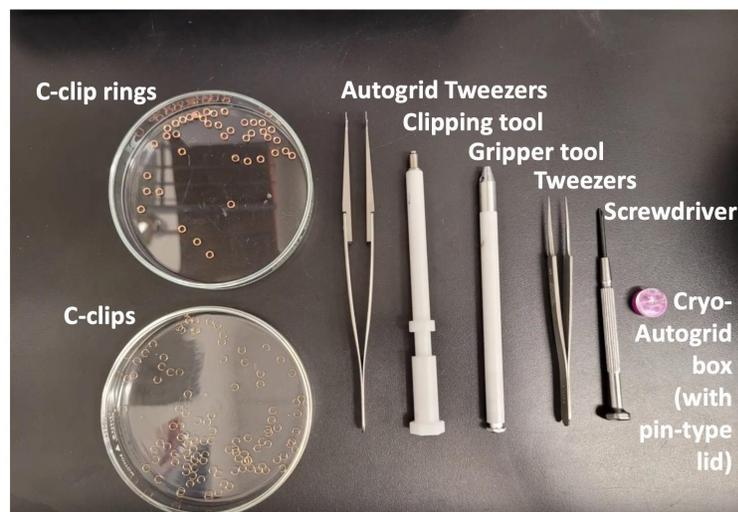

Figure 1. Tools needed for grid clipping.
- 2.4. Definition of terms for tools/equipment can be found in Figures 1 & 3.